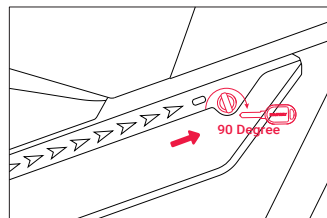
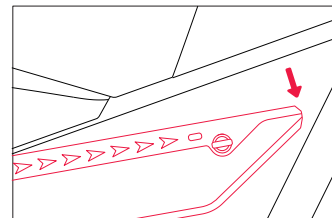

Figure 5
Figure 6
Step 2: Ensure the key is rotated to a 90-degree position and held there; then, push the battery towards the right side as shown in (fig.5). Once the battery has shifted, remove it by pulling it downwards (fig.6).